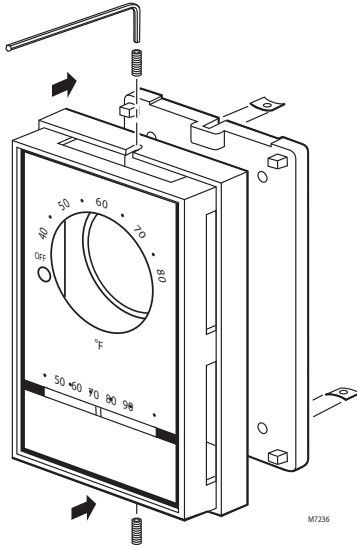

Fig. 4. Locking cover installation.
2. Insert the Tinnerman Speed Nut® (included) into the slot on the lower back of thermostat base. See Fig. 4.